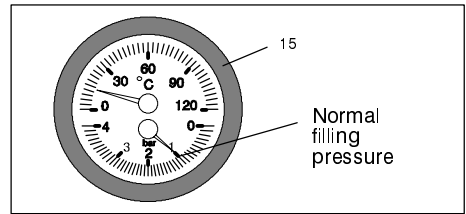

fig. 2.2
Ensure that the heating circuit is regularly filled with water (even if the boiler is only used for domestic hot water supply) checking that the pressure indicated on the temperature and pressure gauge (15) is not lower than that shown in fig. 2.2.
If the pressure reading on the pressure gauge is below that shown in fig. 2.2, than the system will require topping up. A filling loop is normally provided by the installer for this purpose.
- 2 Open the valves of the filling loop and watch the gauge until it reaches normal filling pressure as shown in fig. 2.2.